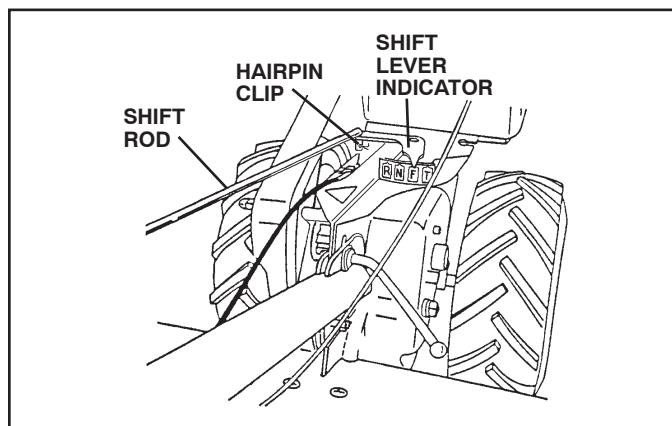

Fig. 6
CONNECT SHIFT ROD (See Fig. 6)
- Ensure shift lever indicator is in "N" position (See Fig. 6).